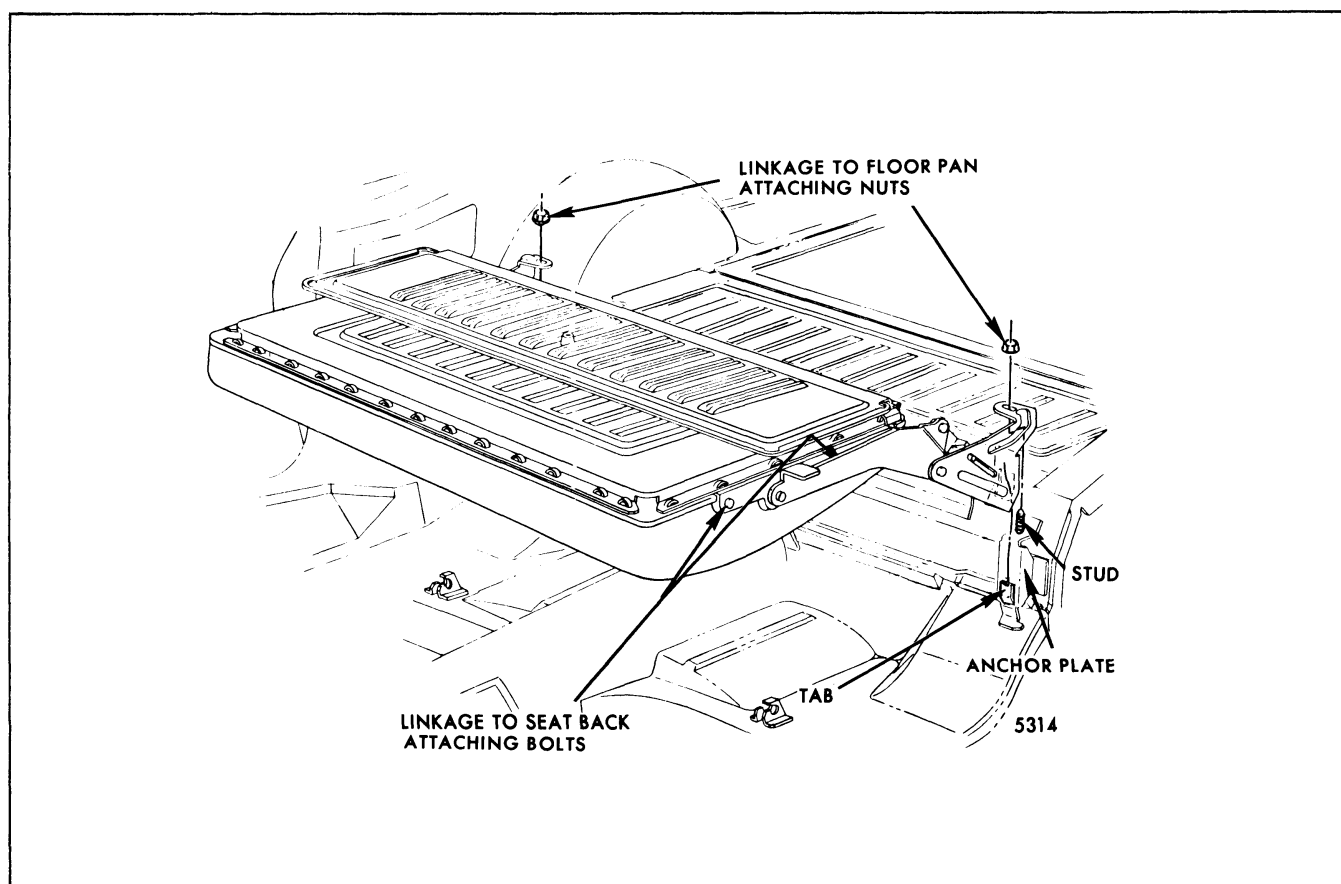

Fig. 9-68-Folding Rear Seat Back Hinge and Linkage
back and filler panel and engagement of the seat back lock with lock striker, the hinge-to-floor pan attaching hole in both right and left hinge is slotted laterally. To adjust seat back assembly laterally, loosen both right and left hinge-to-floor pan attaching nuts (Fig. 9-68), adjust hinges as required; then, tighten attaching nuts - torque nuts 12 to 18 ft. lbs.
1. With rear seat back in load floor position remove two (2) linkage to floor pan bracket attaching nuts (Fig. 9-68) and lift seat back assembly to disengage lower portion of hinge from tab on floor pan (Fig. 9-68).
1. Raise rear seat back filler panel and remove rear seat back linkage-to-anchor plate stud attaching nuts (Fig. 9-68).